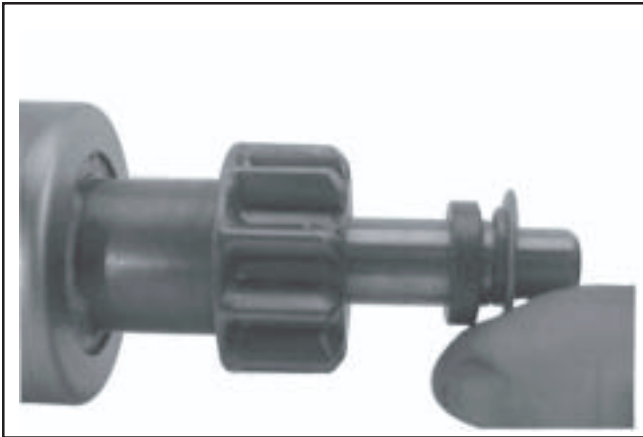

Figure 8-28. Thrust Washer Installation.
3. Install the offset thrust (stop) washer so the smaller "offset" of washer faces the retainer/collar. See Figure 8-28.